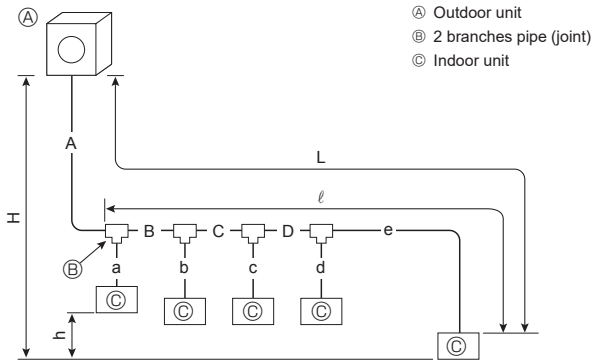

Fig. 4-3 (a)
4.3.1. Connection without Branch box (Fig. 4-3)